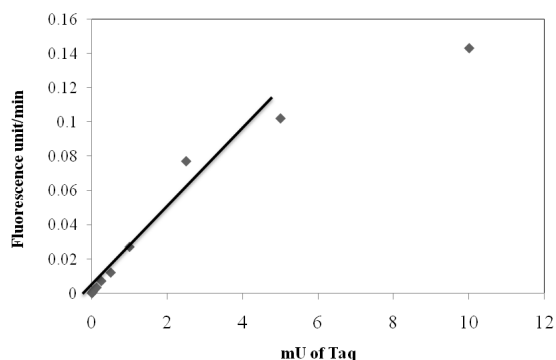

Figure 4. Titration of Taq DNA Polymerase Activity.
- Plot the initial slope for each standard dilution against the unit activity of the standard DNA polymerase to generate a standard curve. A Taq polymerase standard curve is shown in Figure 4.